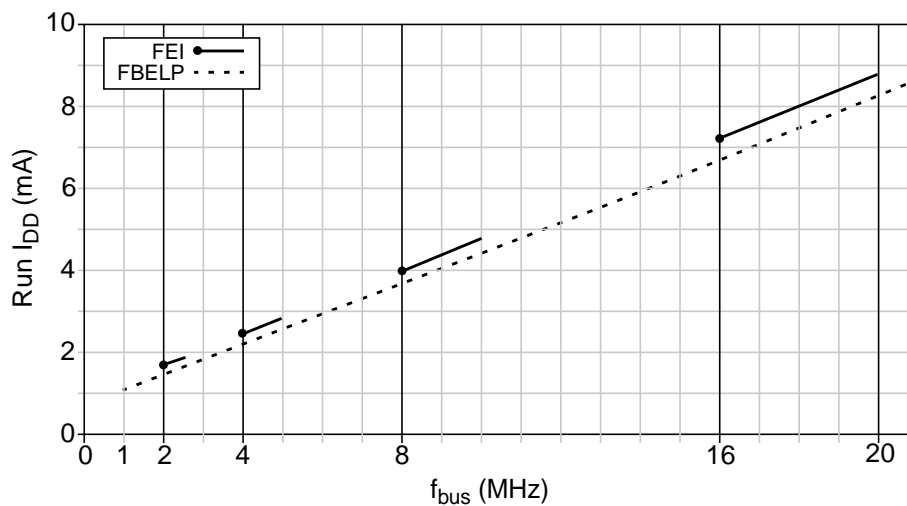
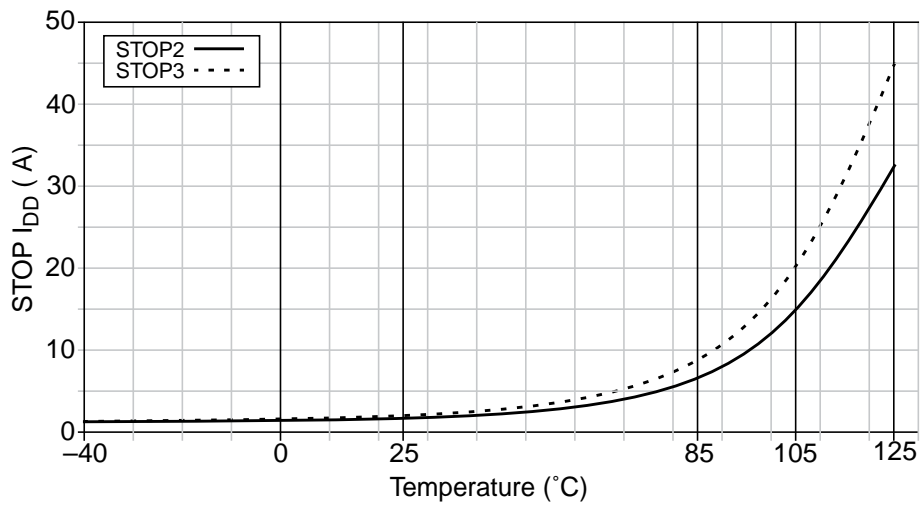

Figure A-5. Typical Run IDD vs. Bus Frequency (VDD = 5V)
Figure A-7. Typical Stop IDD vs. Temperature (VDD = 5V)
- 1 Typical values are based on characterization data at 25°C. See Figure A-5 through Figure A-7 for typical curves across voltage/temperature.